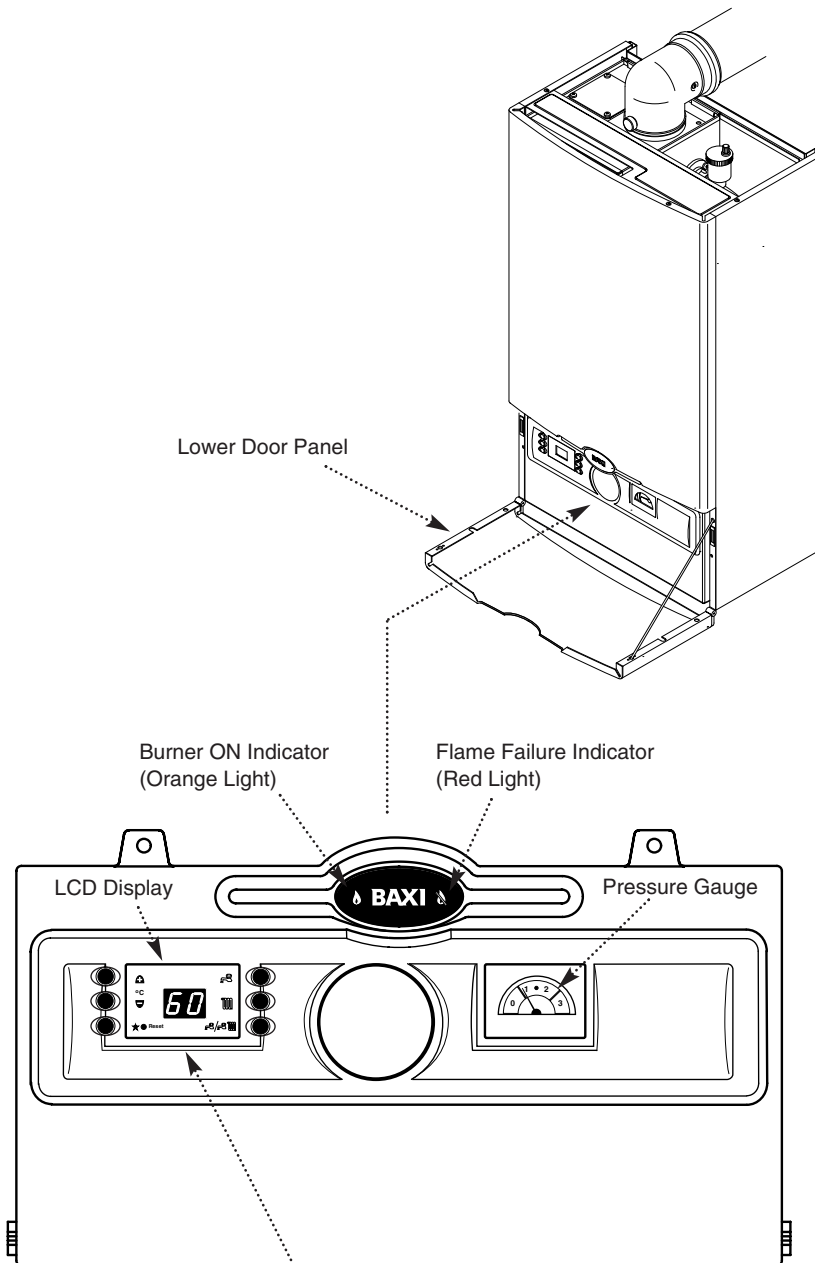

Fig. 3
**NOTE:** Two status indicators can be seen through the badge (Fig. 3).
1. The appliance only needs resetting if the red flame failure light is on (Fig. 3) or if the display shows (  ) for more than 10 seconds.